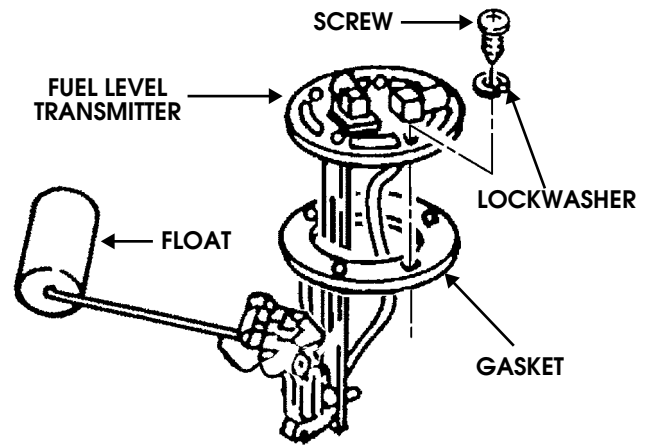

Figure 3-35: Fuel Level Transmitter in Up/Tank Full Position
3. Hold transmitter so that float is in the up/tank full position (Figure 3-35).